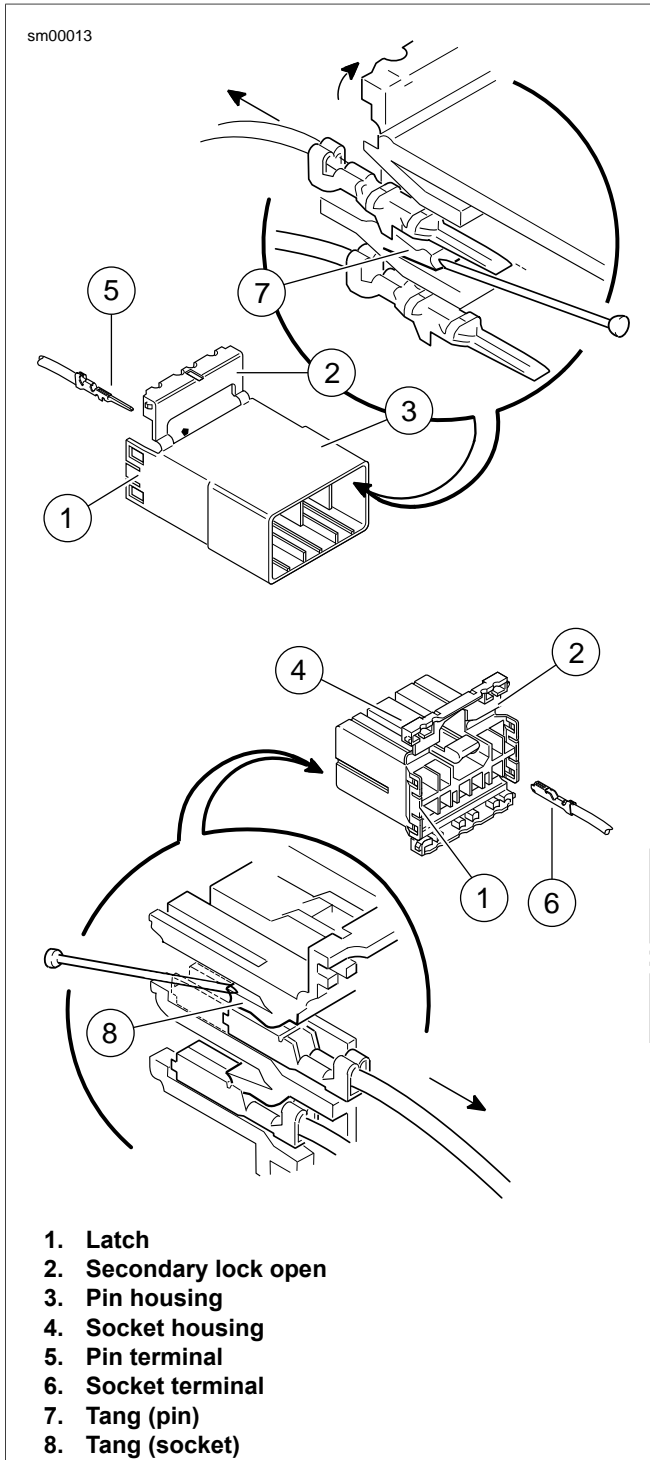

Figure A-64. Tyco 070 Multilock Unsealed Connector: Socket and Pin Housings
1. See Figure A-64. Bend back the latch (1) to free one end of secondary lock (2) then repeat on the opposite end. Hinge the secondary lock outward.
- a. **Socket:** Lift the socket tang (8) up.
- b. **Pin:** Press the pin tang (7) down.